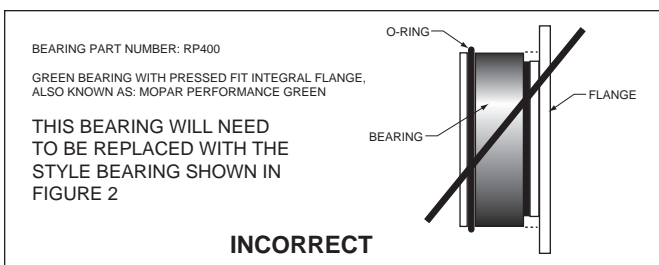
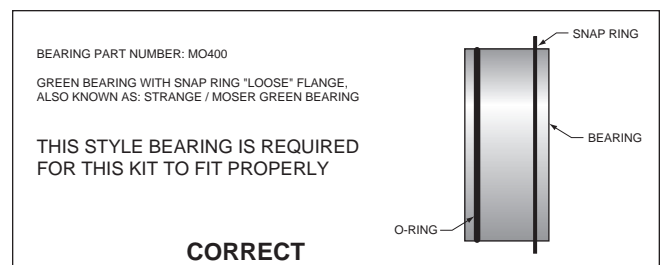

Figure 1. Press Fit Bearing Configuration
Figure 2. Loose Fit Bearing Configuration
- There are two types of “Green Bearings” being supplied by axle manufacturers. Your setup should look like Figure 2 (below right), not the Figure 1 configuration, otherwise this kit will not fit.
- That the bearing is the snap ring style bearing with removable flange (see Figure 2, preceding page).